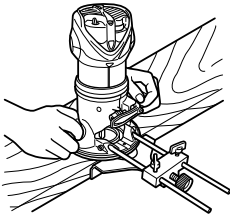

Fig. 10
- ④ As shown in **Fig. 10**, securely attach the bottom of the base to processed surface of the materials. Feed the router while keeping the guide plane on the surface of the materials.